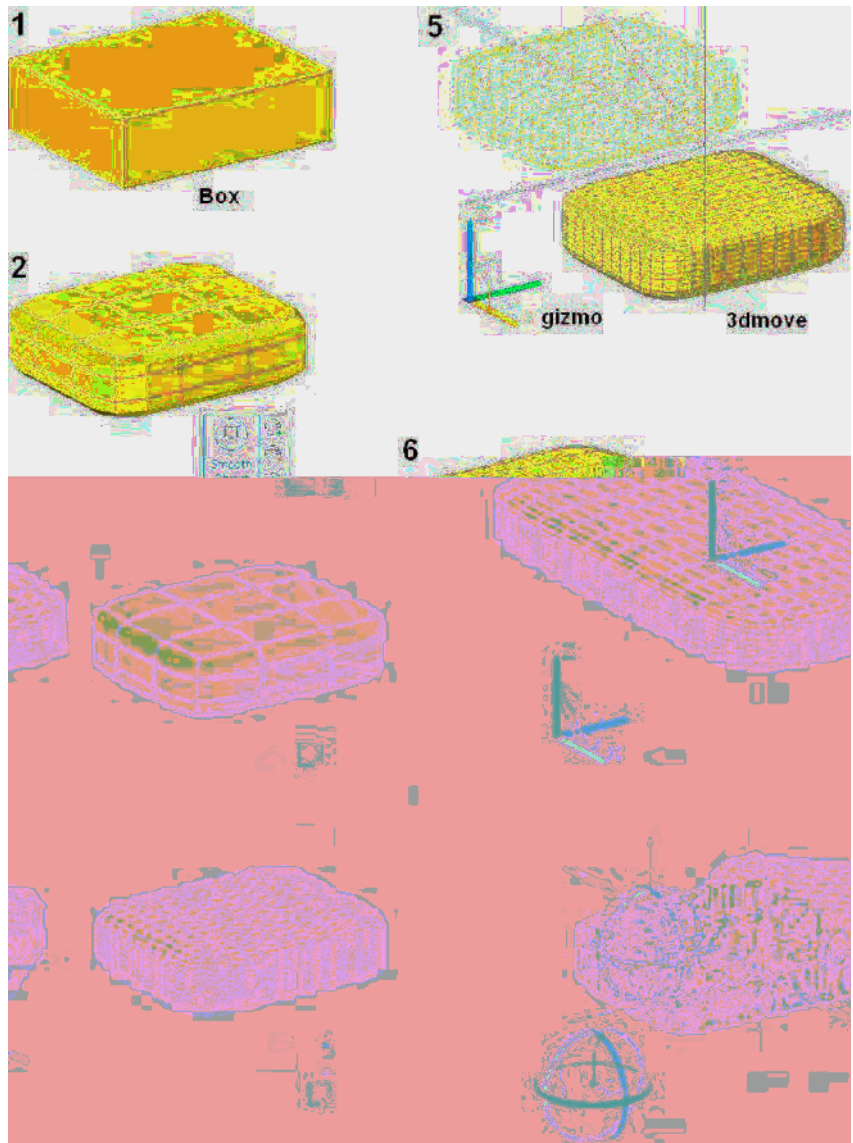

Fig. 19.15 Mesh, 3dmove, 3dscale and 3drotate tools
Fig. 19.15 shows a series of illustrations showing the actions of the **Mesh** tools and the three 3D tools **3dmove**, **3dscale** and **3drotate**. The illustrations show:
7. The **Smooth Refined** box acted upon by the **3drotate** tool. Note the gizmos shown in Fig. 19.15.